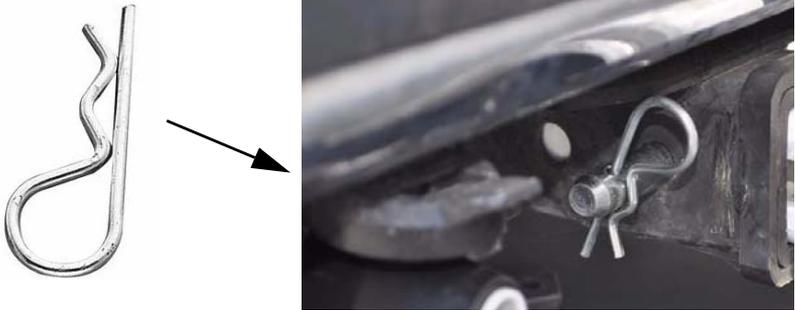

Figure 2-11. Hitch Pin Clip Installed
3. Install the hitch pin clip (Figure 2-11).